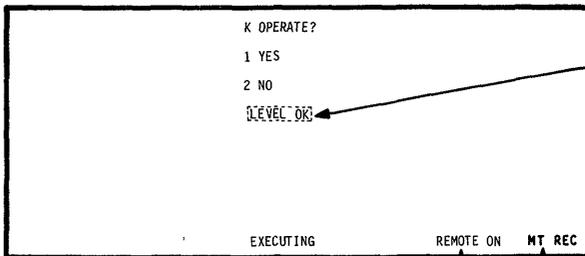

Fig. 13.9
- [1]: As shown in Fig. 13.9, "EXECUTING" message is displayed and execution is initiated.